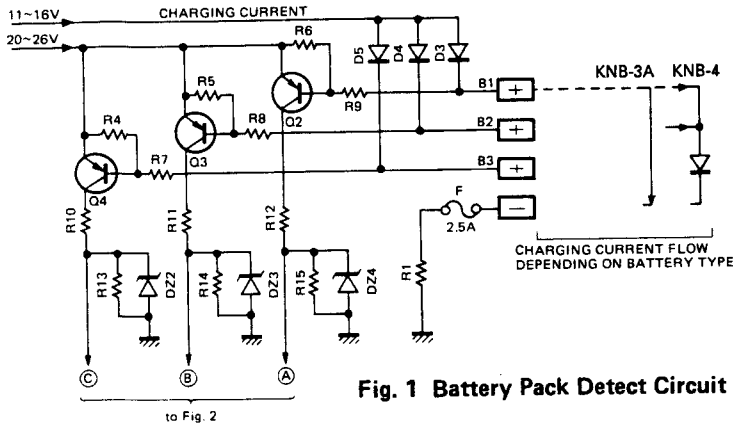

Fig. 1 Battery Pack Detect Circuit Block Diagram
When a KNB-3A or KNB-4 is inserted in the charger, a small amount of current flows from Q2 : 2SA608E through R9 to the charging terminal B1 and Q2 turns on. As a result, an output of approximately 11V appears at ① in **Figure 1**. Similarly when a KNB-4 is inserted Q3 : 2SA608E turns on and approximately 11V is provided at output ②. When a KNB-3A or KNB-4 is charged, Q4 is off and 0V is provided output ③.